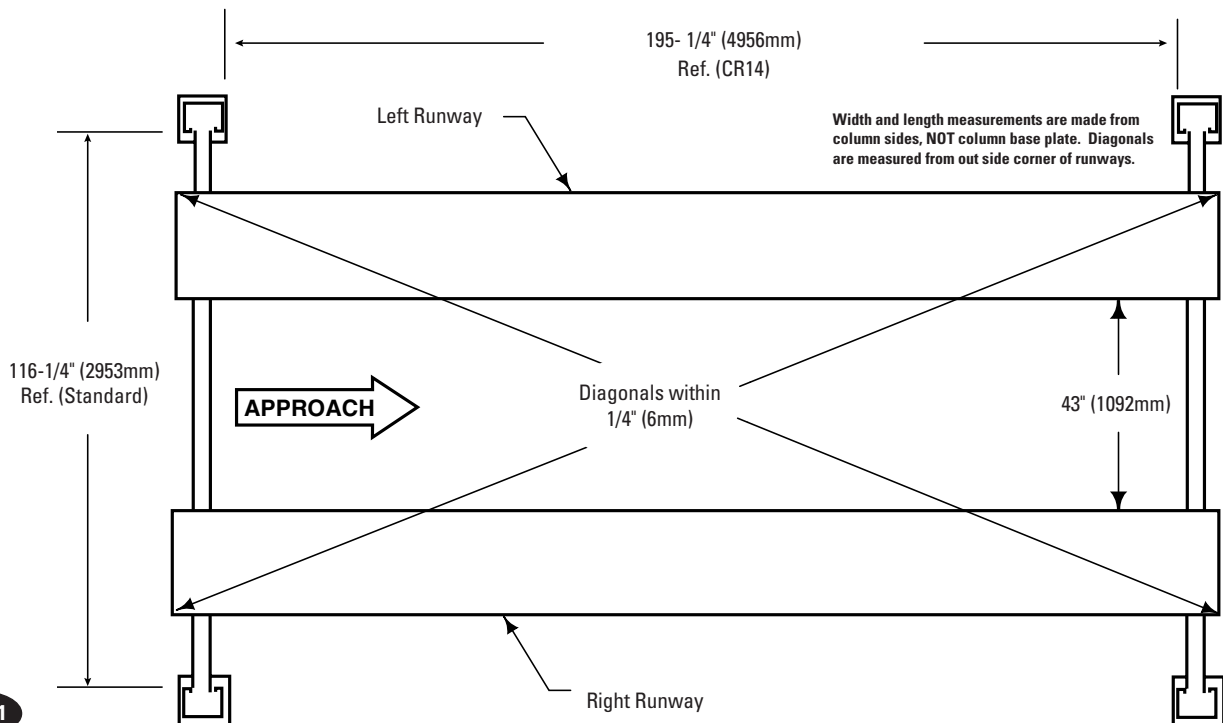

Fig. 11
- A. Keep columns square to center line of lift. Check lift location in the bay. Check dimensions side-to-side, front-to-rear, and diagonally. Diagonals must be equal to within 1/4" (6mm), Fig. 11.